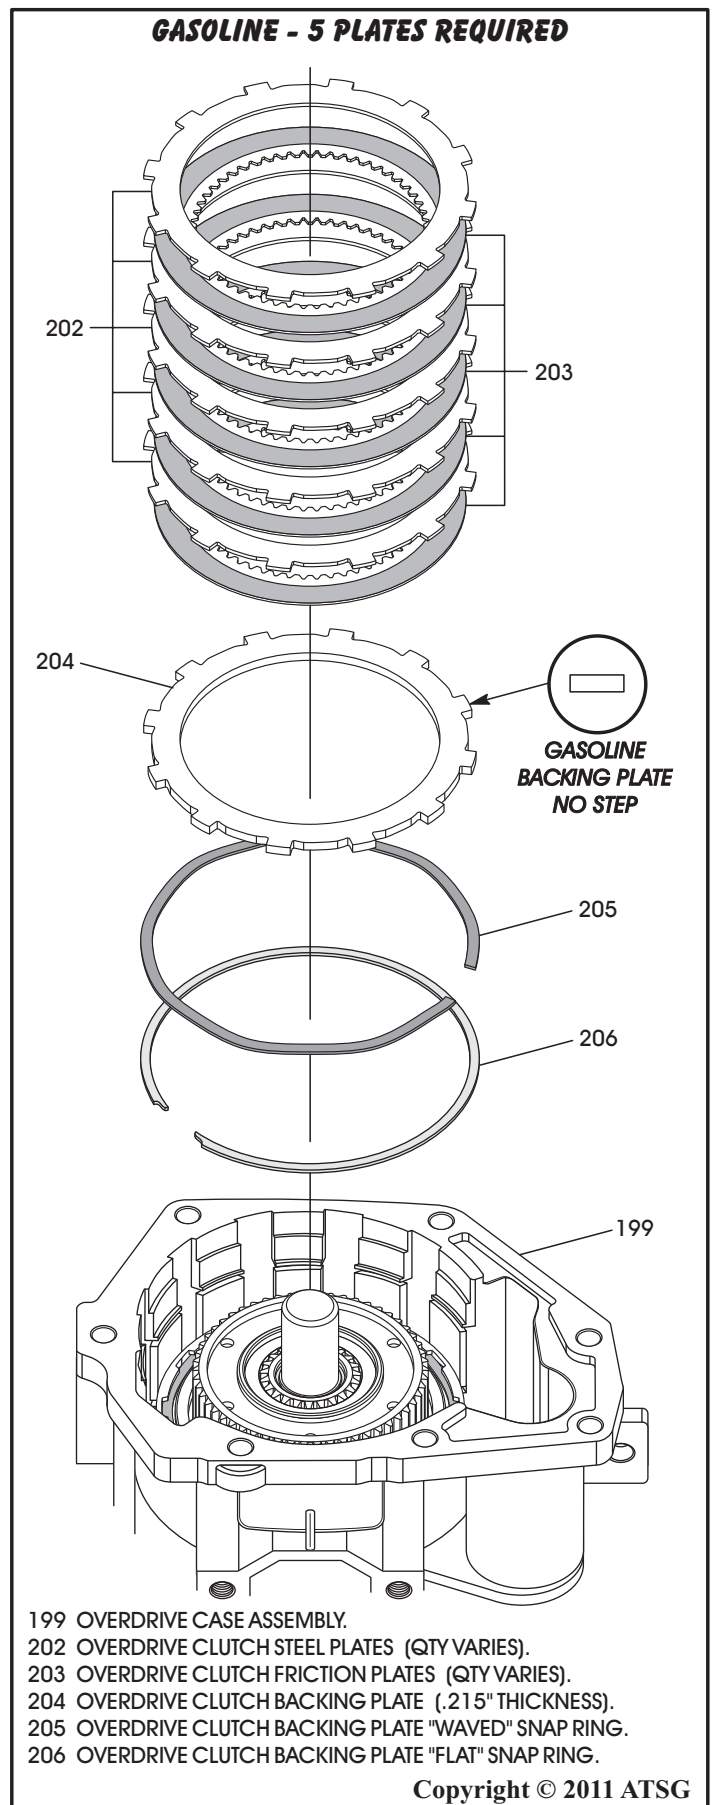

Figure 197
48. Turn the overdrive housing over and set it on the same blocks, with front side facing up, as shown in Figure 197.
50. **Gasoline Models:** Install the "flat" snap ring into the lower groove first, as shown in Figure 197.
51. Install the "wave" snap ring into the same groove on top of the "flat" snap ring (See Figure 197).
52. Install the overdrive clutch backing plate on top of the wave snap ring, as shown in Figure 197.
53. Install the overdrive clutch plates beginning with a friction plate and alternating with steel plates, as shown in Figure 197, until you have proper amount installed for your model.